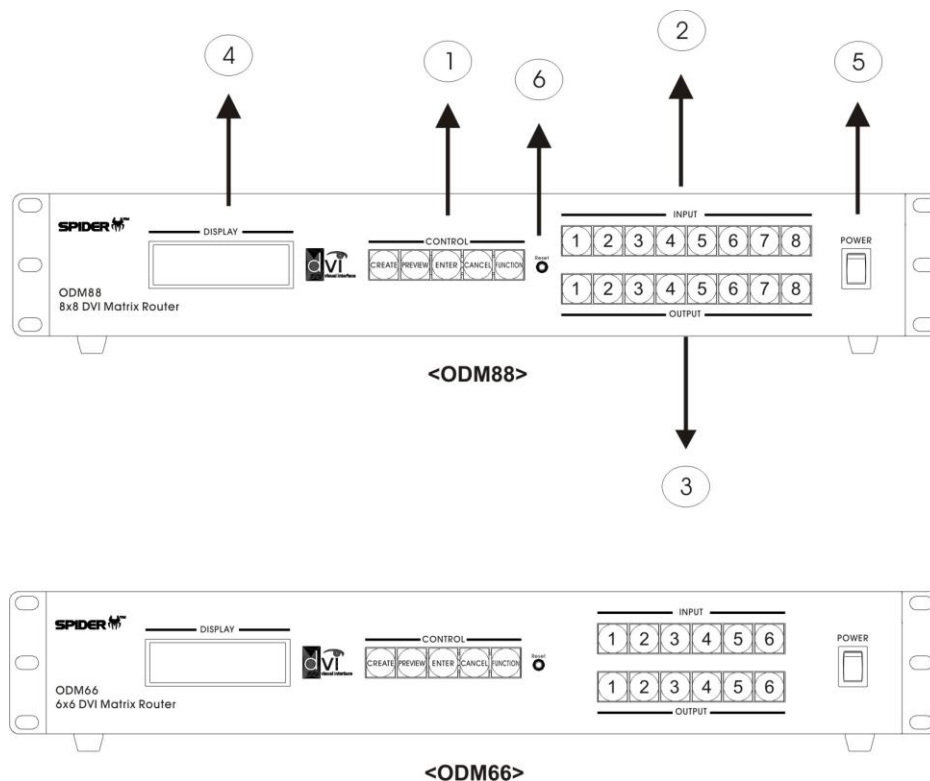

Figure 1-1 Front Panel
- ODM88 chassis is mountable on a 19" standard rack with rack ears. Control keys, Input-Output buttons and the status LCD display, are placed on the front panel as shown in Figure 1-1.
- Control keys: ①
- Eight (8) LED inputs: ②
- Eight (8) LED outputs: ③
- Status display: LCD displays the control status in 20x4 text mode: ④